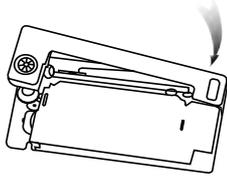

Figure 2-5. Keep right end of cassette up
(3) Take a new ribbon. Hold the cassette as in step 2. Put the left end on the axle of the gear on the left end of the printer head. Keep the right end of the cassette up as shown in Figure 2-5.